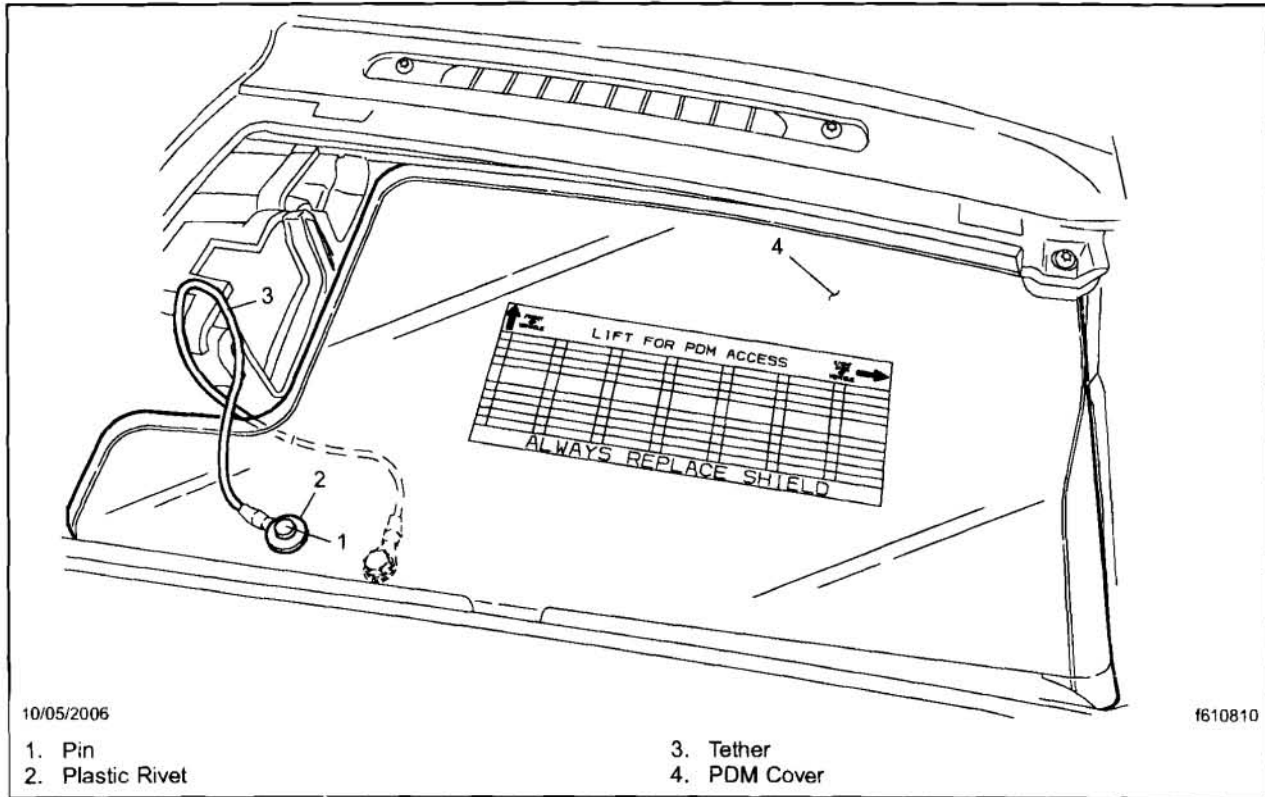

Fig. 2, PDM Cover Installation
2. Position the new cover over the PDM. The cover must be positioned outboard as far as possible to completely cover the battery terminals. The inboard side of the cover should be flush against the HVAC duct, but not under it. See Fig. 2.